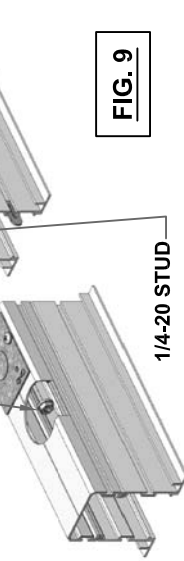

FIG. 9
MOUNT NEXT FIXTURE IN A SIMILAR FASHION AS FIRST FIXTURE AND POSITION IT SUCH THAT THE ALIGNMENT TABS (G) FIT INTO THE FIRST FIXTURE. MAKE CONNECTION OF THE WIRE HARNESS (H) AND PUSH EXCESS WIRE BACK INTO FIXTURE. MAKE SURE THAT WIRE IS NOT PINCHED BETWEEN JOINT AND SLIDE FIXTURES TOGETHER. JOIN FIXTURES TOGETHER BY TIGHTENING NUTS ON STUDS, PROJECTING FROM JOINT ACCESS PLATES. (FIG. 9)